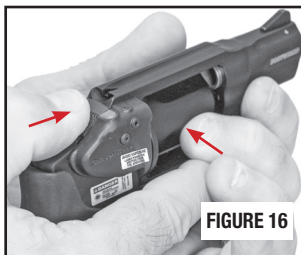

FIGURE 16
- To remove either live cartridges or spent casings from the cylinder, first point the barrel in a safe direction. Press the thumbpiece forward and swing and hold the cylinder fully to the left (FIGURE 16).